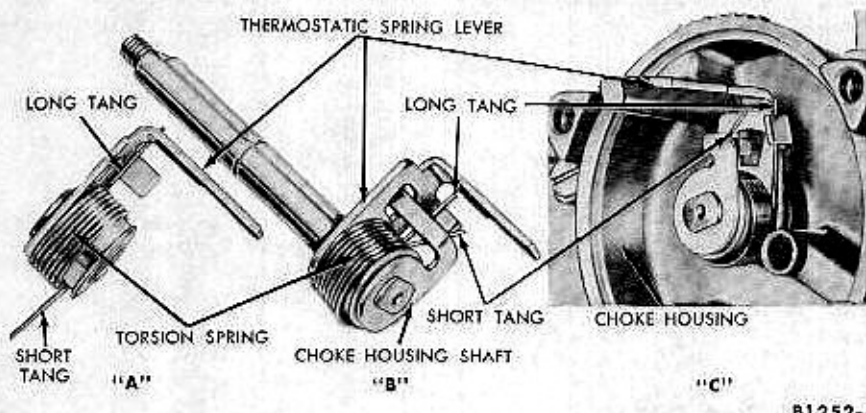

FIG. 17—Choke Housing Torsion Spring Installation
7. Position the torsion spring on the thermostatic spring with the long tang against the lug on the lever (Fig. 17-A).
8. Slide the lever and spring assembly on the choke housing shaft with the short tang of the spring resting on the lug on the shaft and the lug positioned in the slot in the thermostatic spring lever (Fig. 17-B). Place the spacer on the choke housing shaft. Slide the assembly into the choke housing (Fig. 17-C). Install the retaining clip in the groove on the choke plate shaft.